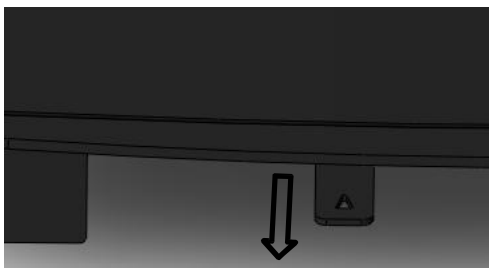

Fig. 6. Fully Open Position
- To **fully open** the primary air, **slide the control knob to the right**, as far as it will go (see figure 6).